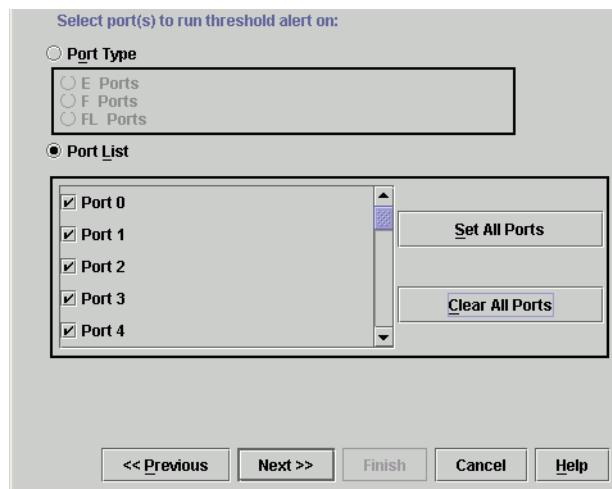

Figure 30: New Threshold Alerts dialog box—third screen
9. Click **Next**. A new screen displays for selecting ports for the alerts, as shown in Figure 30.